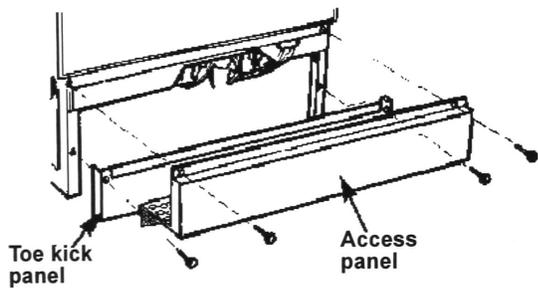

Figure 1
2. Remove the access and toe kick panels as shown in Figure 1.